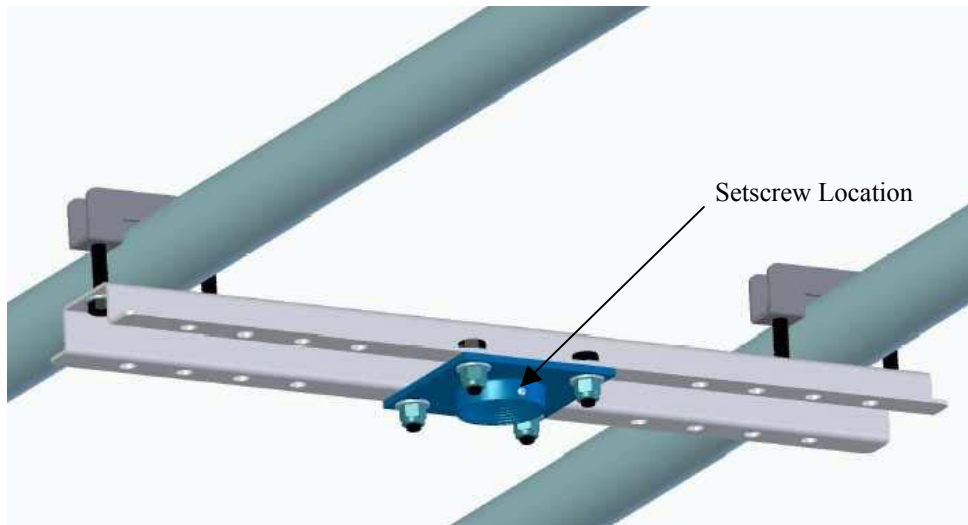

Figure 1. CMA-366
1. Secure the hang down truss plate to a structural member (see Figure 1) in the desired location using two clamps, four 3/8-16 X 2” bolts, and four 3/8” flat washers (**SEE WARNING ABOVE**).